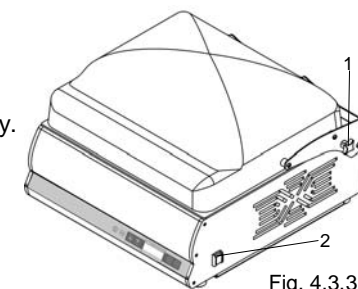

Fig. 4.3.3
2. Unscrew the black knob (ref. 1 fig. 4.3.3) to positioned on the right side of the machine, in order release the dome and start to work.
3. Turn the machine on using the switch (ref. 2 fig. 4.3.3) on the right side.
2. Loosen the black knob (ref. 1 fig. 4.3.3) positioned on the right side of the machine until the dome is released and the job can start.
3. Turn the machine on via the switch (ref. 2 fig. 4.3.3) on the right side.